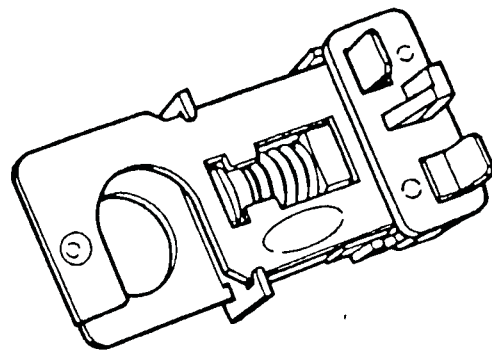

Figure 29
**Description:** The brake on off switch tells the processor assembly when the brakes are applied. The switch is closed when the brakes are applied and open when they are released (Figure 29).